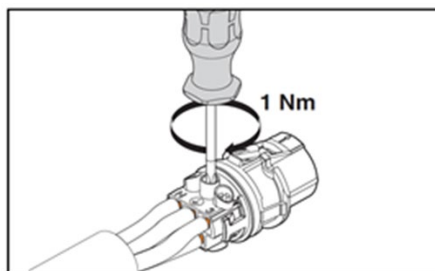

Fig. 16: Tightening the wires
- Connect the screws on the contact carrier with 1 Nm (: Placing the wires Fig. 16).